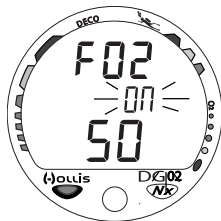

Fig. 27 - Set FO2 Default
- While the Surface Sequence is scrolling, depress the button until the Set FO2 50 screen appears with the Set Point flashing (Fig. 27), then release the button; or when the screen appears after having set PO2 Alarm.